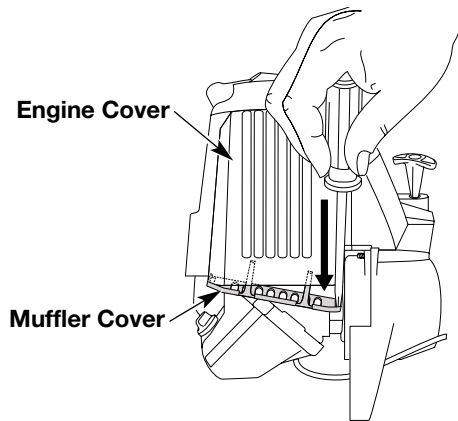

Fig. 38
1. Remove the muffler cover by pressing down on the corner with a flat blade screwdriver (Fig. 38). Slide the notches on the sides of the muffler cover over the tabs on the engine cover and remove
- Replace the muffler cover. Slip the long tabs on the muffler cover into the engine cover. Slide the notches on the side of the muffler cover over the tabs on the engine cover and snap into place (Fig. 38).